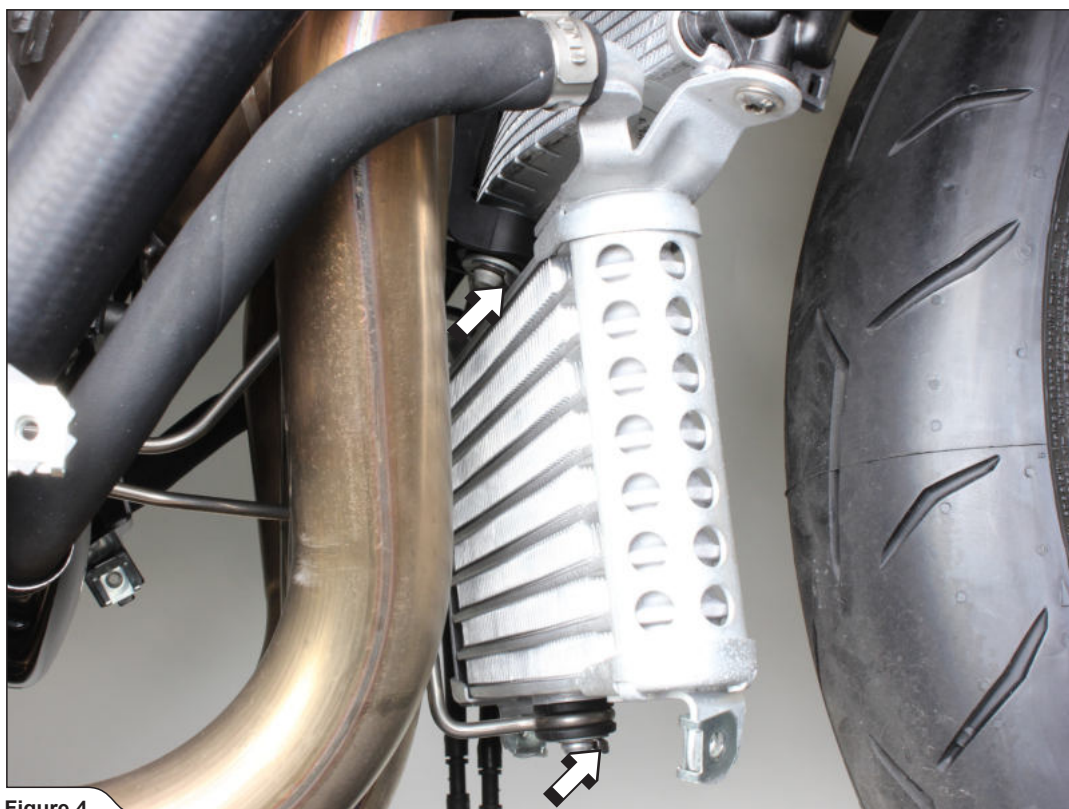

Figure 4
5. Undo the marked snap rings, unscrew the marked bolt and carefully remove the radiators' bracket off the motorcycle (Figure 4, 5).